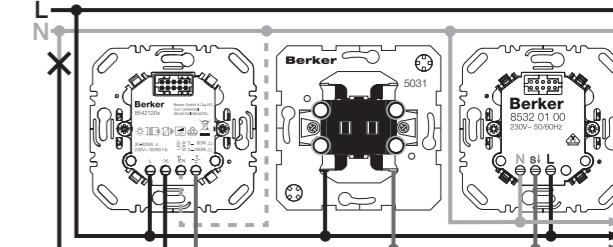

Figure 4: Push-button dimmer (Comfort) 1gang with optional extension units
- i** Optional on push-button dimmers comfort 1gang and 2gang: Connect suitable extension units (Figure 4 and 6).